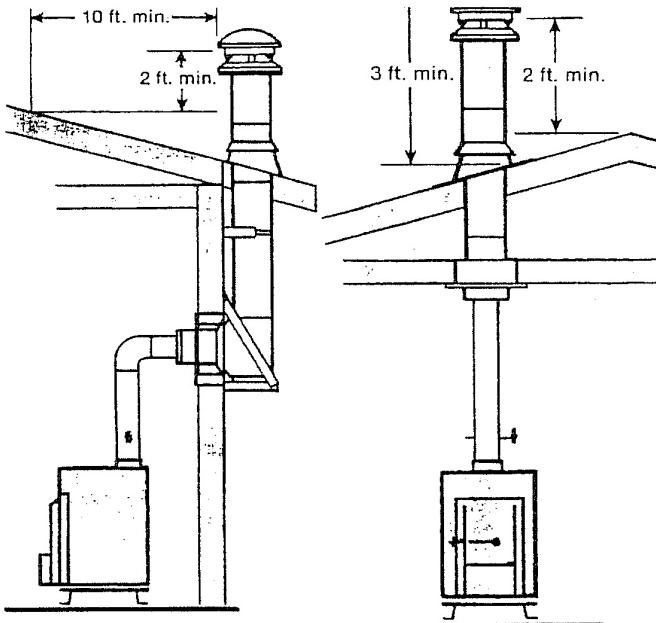

Figure 2
Shenandoah Heaters must use an approved system for venting flue gases. Figures 2 - 5 indicate various methods.
**1. Factory Build Chimneys:** Must be listed type HT per UL 103. NFPA No.211 requires factory built chimneys to be listed and installed in accordance with conditions of the listing and the manufacturer's instructions. NFPA No.211 also requires the chimney to extend at least 3 feet above the highest point where it passes through the roof, and at least 2 feet higher than any portion of a building within 10 feet of the pipe. (See figures 2 & 3)